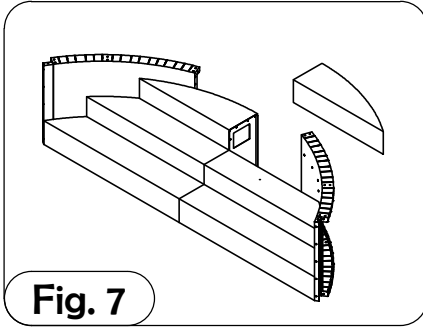

Fig. 7
8. Bolt left and right top center steps together and through stair brace (Fig. 7).
9. Bolt left top center step to left radius stair side panel and to left center step (Fig. 7).